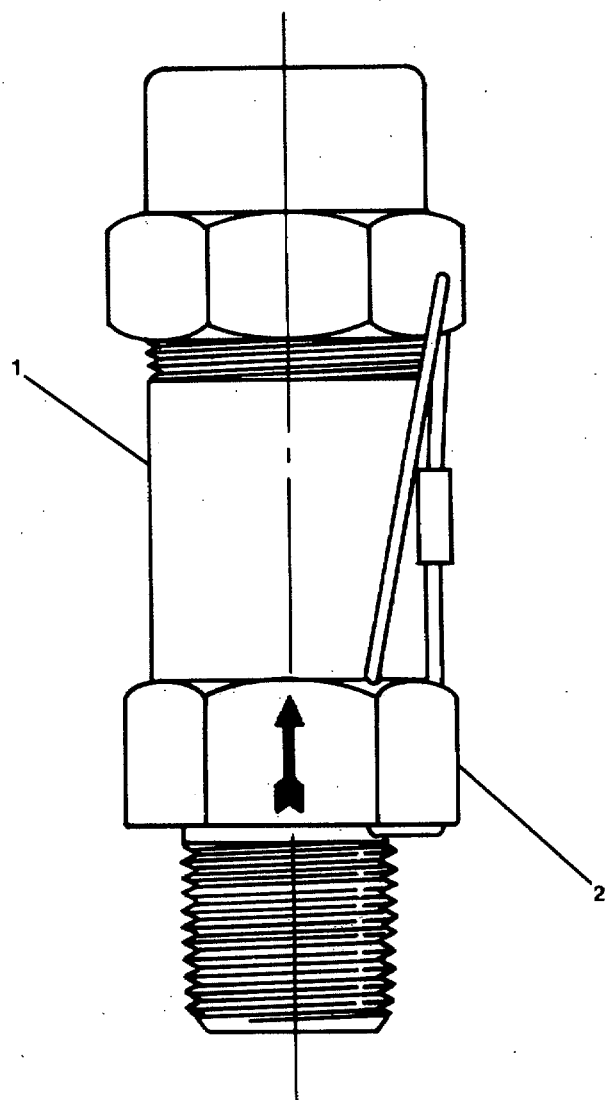

Figure 4-10. Pressure Relief Valve.
- (1) Disconnect angle valve (5) at connections (3) and (4) and remove valve (5) from high side refrigerant line at receiver outlet.
- (2) Install new angle valve (5) at connections (3) and (4).
- (3) Remove cap (1) and make sure valve is open by turning valve stem (2) fully counterclockwise. Install cap (1).
- (4) Open service valves and receiver outlet valve to allow refrigerant back into the system.
- (5) Restore electrical power and run air conditioners to check for proper operation. Check refrigerant sight glass and add R-22 refrigerant as required (paragraph 4-10).
- (6) Remove "Out of Service" tag from circuit.
- g. Replace pressure relief valve on receiver (1, FIGURE 4-10) as follows: